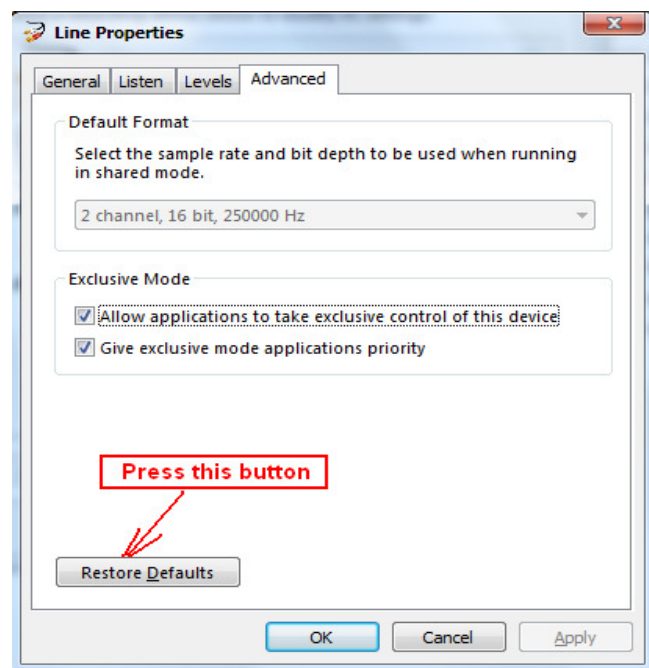

Figure 15 "Properties" window, AFEDRI SDR-Net properties changing
- In new window “Line Properties” press “Restore Defaults” button (see **Figure 15.**). It is not important what sample rate value you could see in Default Format sector (probably it will contain old value).